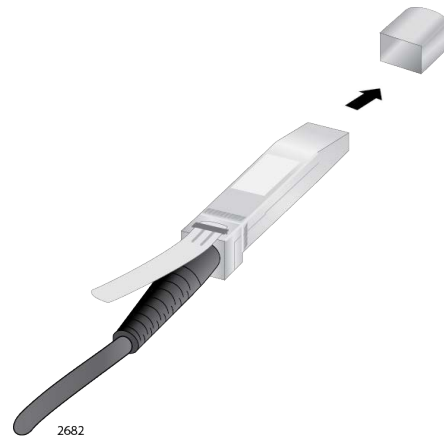

Figure 78. Removing the Dust Cover from the AT-SP10TW Cable
3. Remove the dust cap from a connector on the cable. Refer to Figure 78.